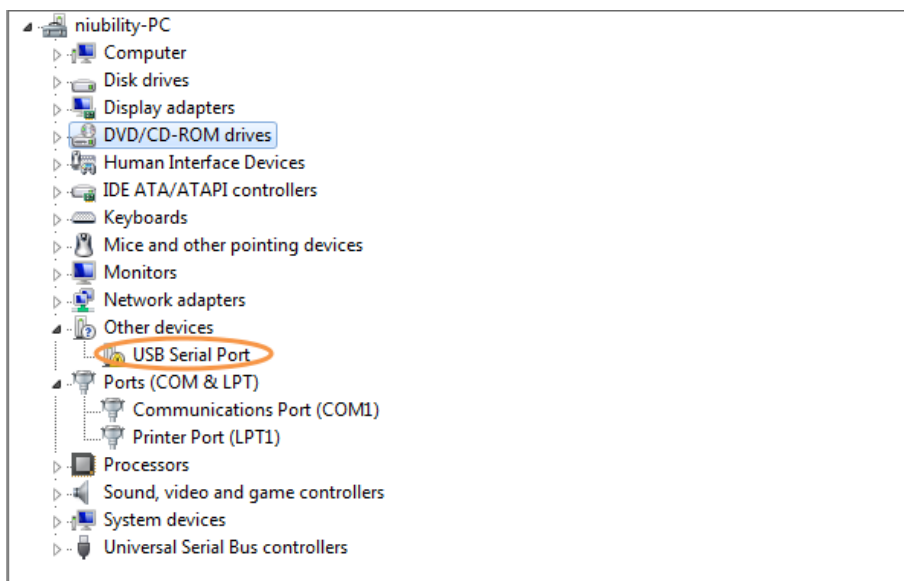

Figure 6-4 Unrecognized USB Serial Port on PC
- Power on your C5G board ,if you find an unrecognized USB Serial Port as shown in **Figure 6-4** you should install the UART to USB driver before you run the demonstration.